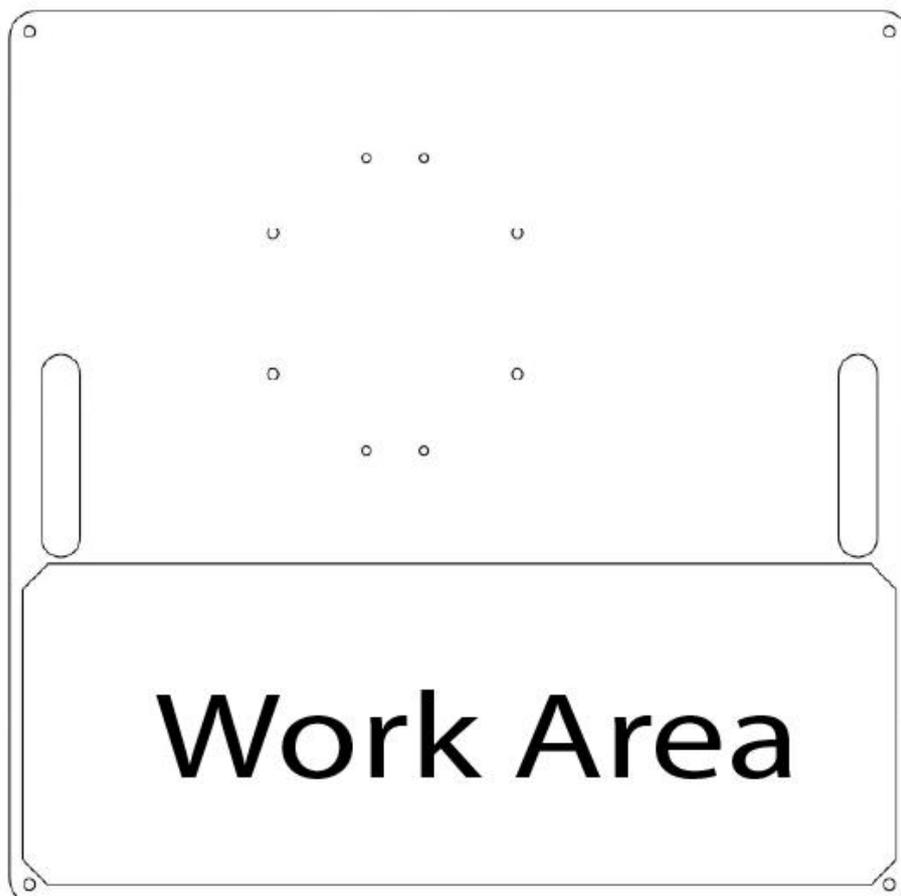

Figure 1: Base Plate orientation
2. Unpack the Base Plate (optional) from its separate box and put it in your selected spot with the mounting holes oriented away from you (**figure 1**). If you wish to secure the stand directly to the floor, you need to drill holes and install anchors according to the schematic at the end of this manual.
15. **Optional:** The included white sticker (also seen on figure 1) can be applied to the Base Plate to help with disc brake alignment by providing a white background.